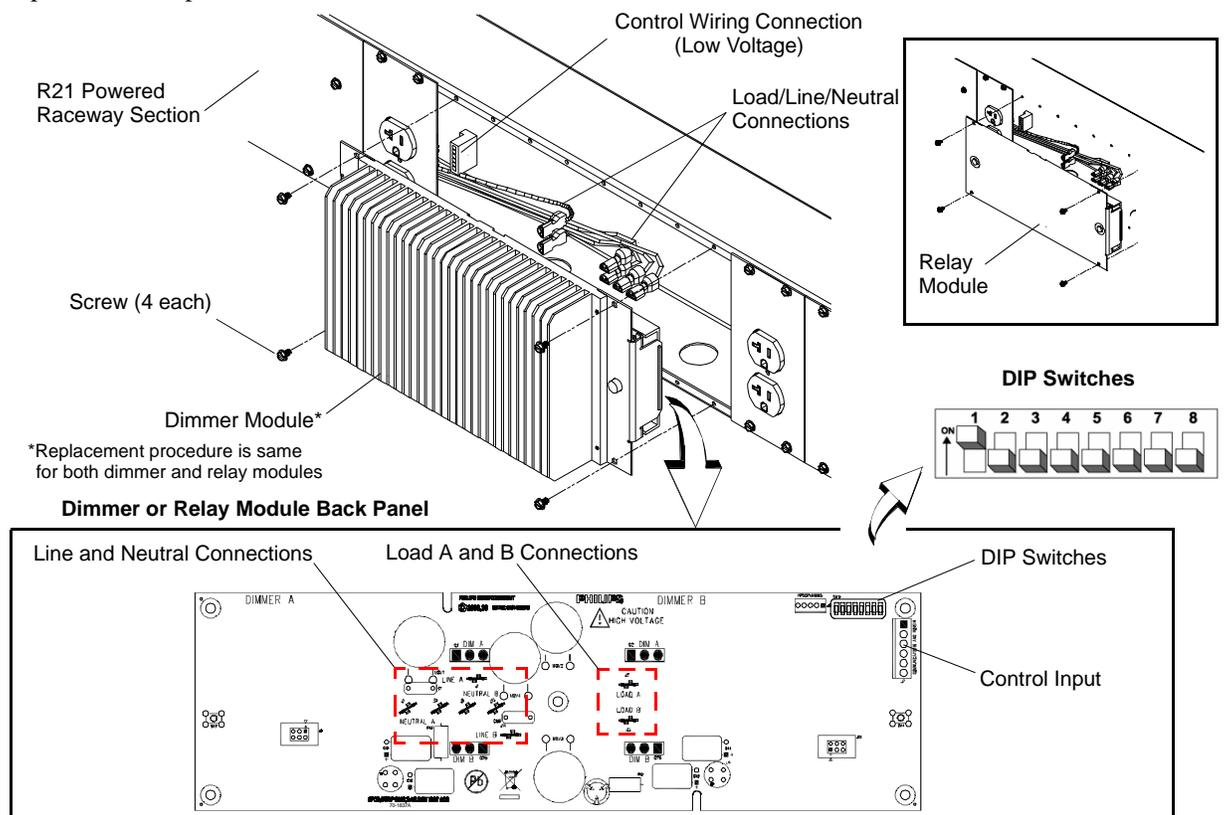

Figure 8: Removing and Replacing a Dimmer or Relay Module
Note: Figure 8 shows a dimmer module; replacement procedure described herein is same for both dimmer and relay modules.
- Step 2. At dimmer or relay module, loosen four screws and partially remove from system (**Figure 8**).